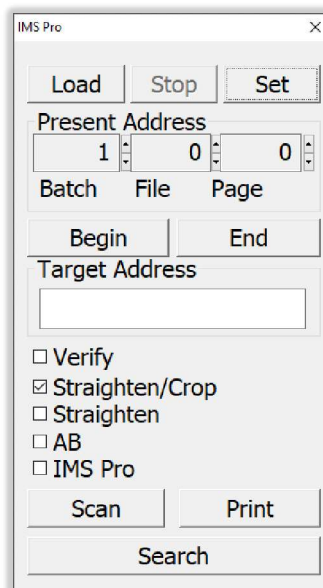

Figure 106
- k. The *Target Address* field is used to navigate the roll of film. *Figure 106*